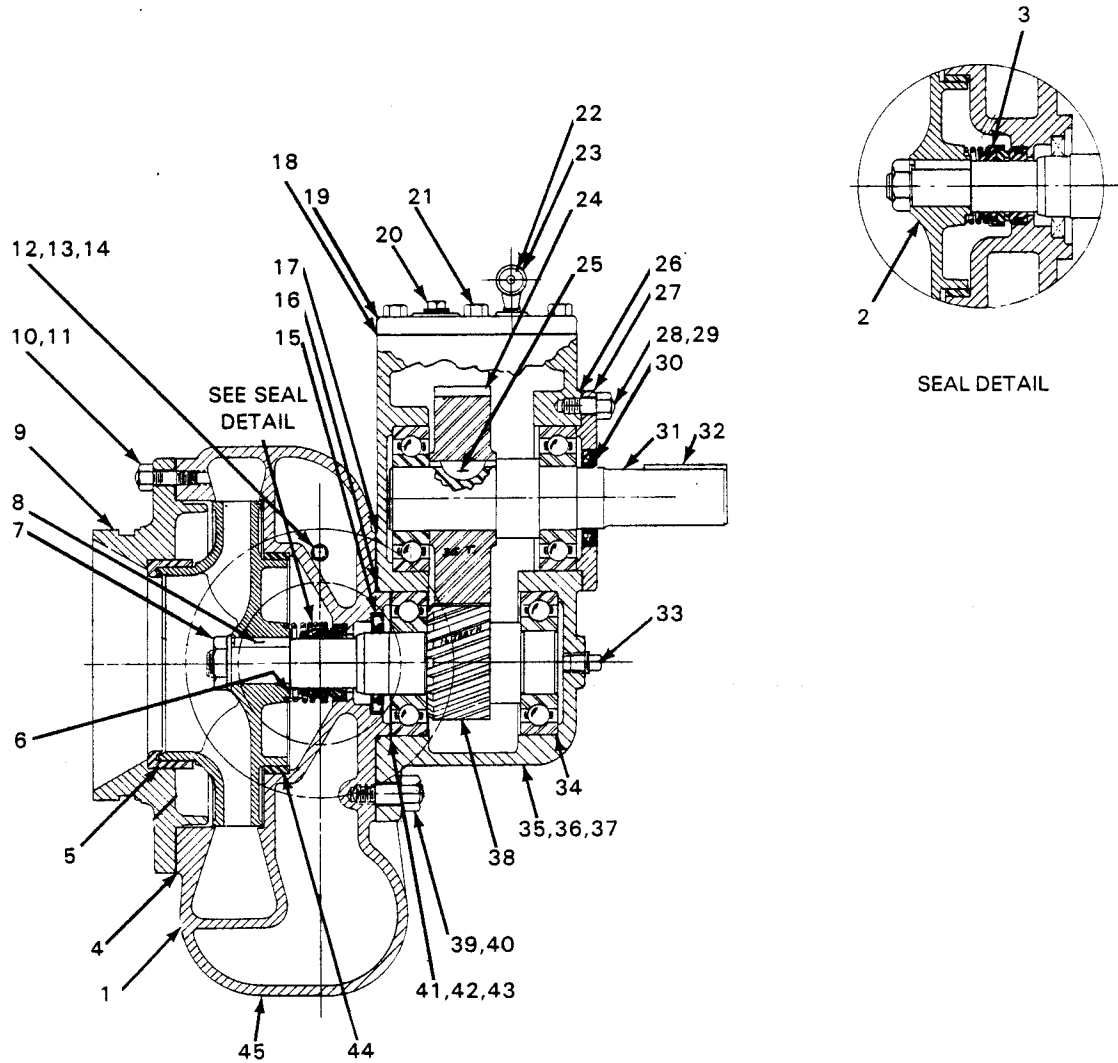

Figure 1. Pump Model 06C13-GA
This pump requires little service due to its rugged, minimum-maintenance design. If it becomes necessary to inspect or replace components, however, follow these instructions, which are keyed to the sectional view (see figure 1) and the accompanying parts list.
Reinstall the drive shaft bearing in the gearbox housing. Reinstall the drive gear key, and position the drive gear so that it engages the pinion shaft gear. Install the drive shaft and bearing. Inspect the oil seal (30) and replace as necessary. Reinstall the oil seal in the bearing cap, positioning the lip as shown in figure 1, replace the bearing cap gasket (26), and secure the bearing cap to the gearbox housing.
Replace the bearing shims. After final reassembly, shaft end play should fall between .005 and .012 inches; add or remove bearing shims to reach this recommended tolerance. Inspect the oil seal, and replace as necessary. Reinstall the oil seal in the volute housing, positioning the lip as shown in figure 1.